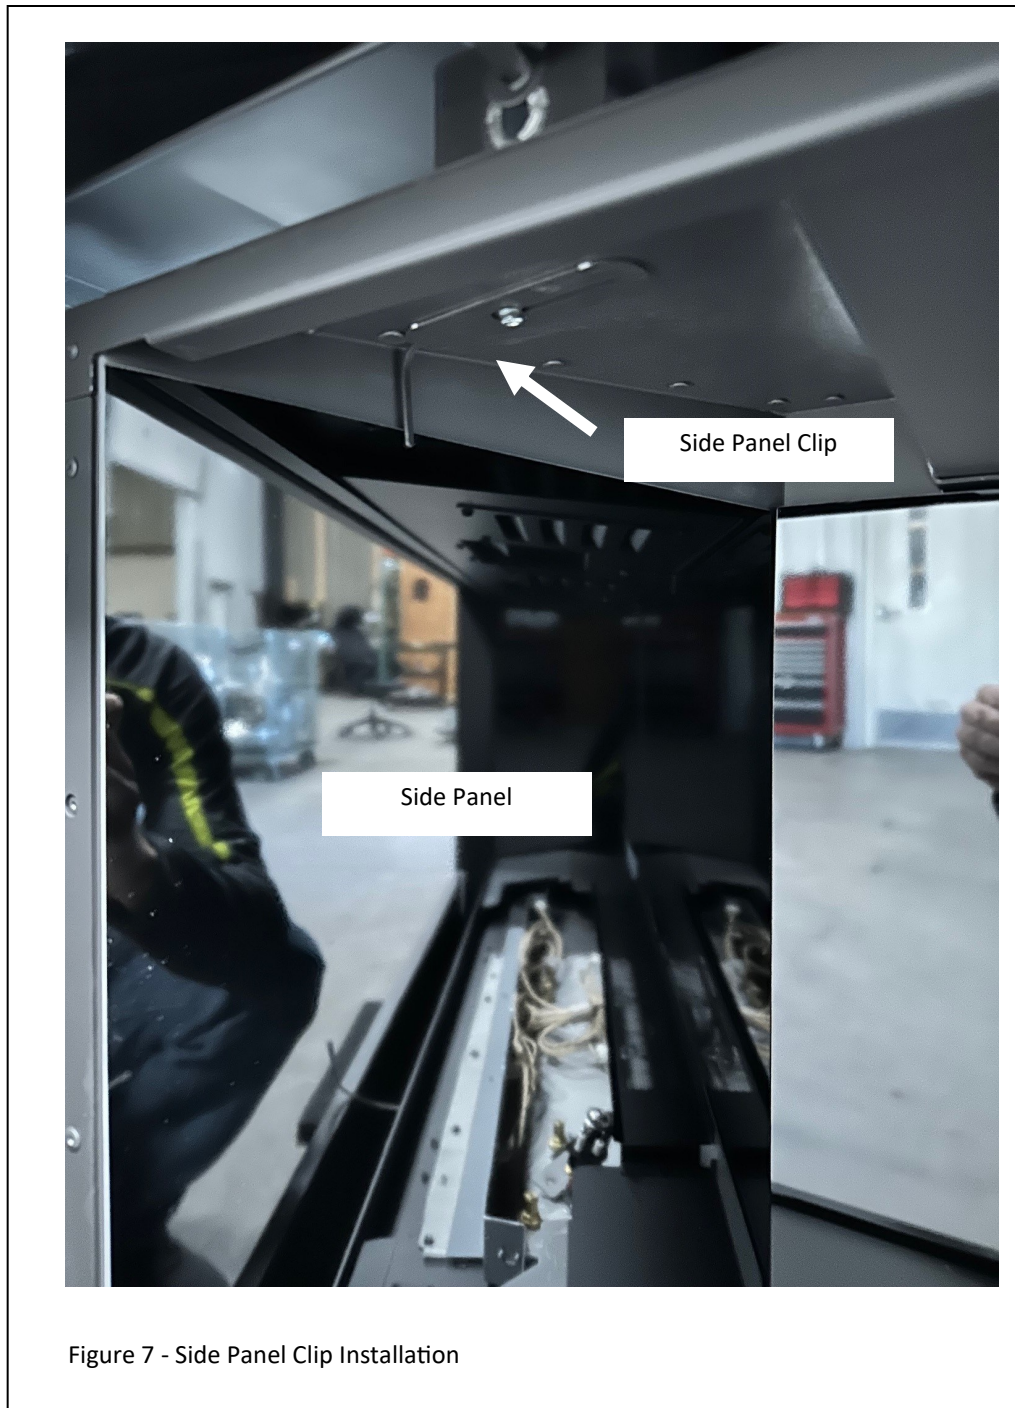

Figure 7 - Side Panel Clip Installation
7. Install the left and right side glass panels. Use the finger panel clips. The finger panel clips are shipped flat. Separate clips and bend the metal fingers at a 90° angle. The metal fingers can be trimmed according to your installation. Ensure there is enough material to hold the panel. You will use a screw that is located in the top of the firebox for clip installation. Loosen the screw and install the panel clip. Ensure the panel clip is angled forward to catch the front of the panel. Figure 7.